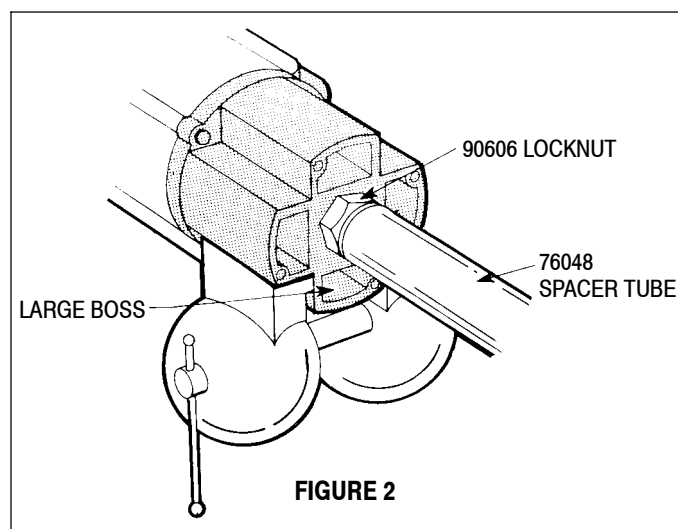
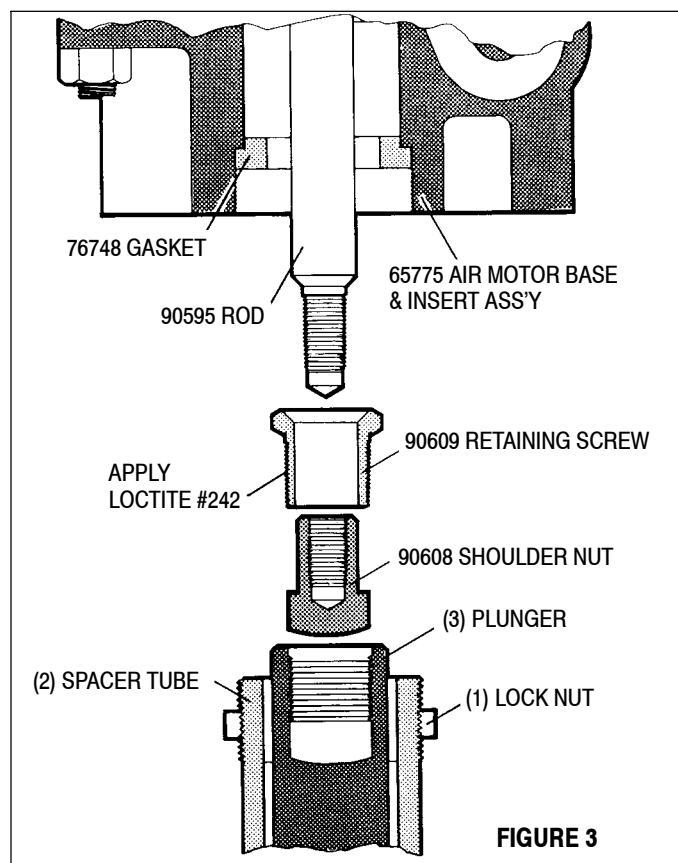
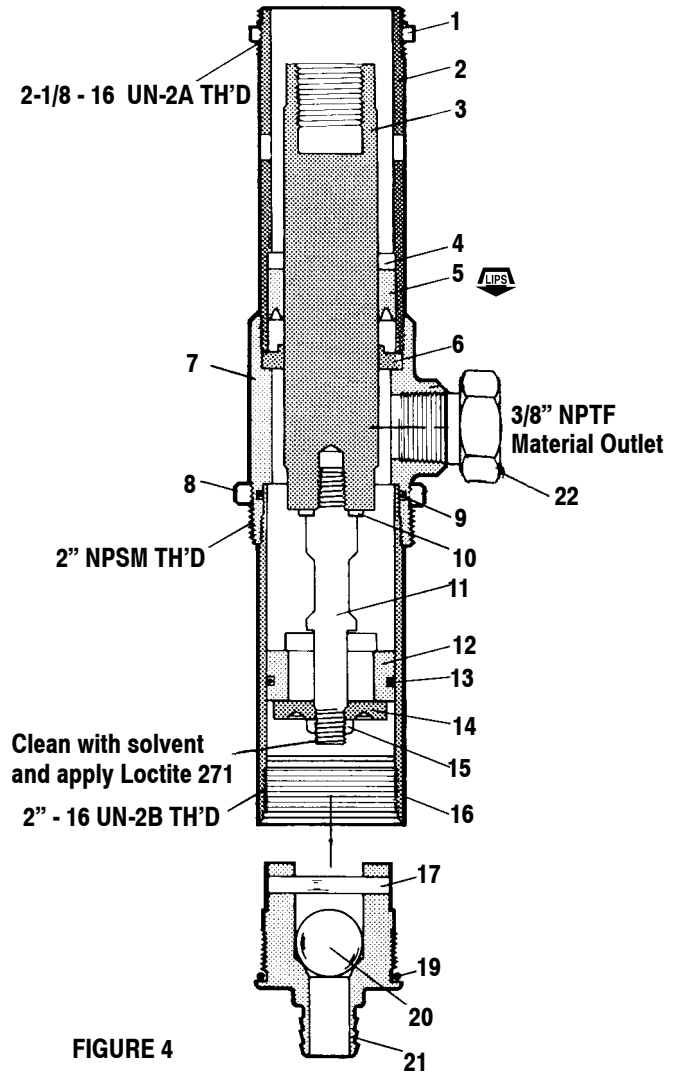

FIGURE 2
FIGURE 3
FIGURE 4
3. Place the (H) suction tube assembly and the lower pump assembly through the 2" NPT bung in the pump mounting bracket. Thread the lower pump assembly into the pump mounting bracket, align the material outlet in the direction the (F) material hose should go, and tighten the (8) lower lock nut. (See Figure 4). Loosen (1) upper lock nut,
- (Figure 4), and turn the air inlet of the 65444-B air motor in the direction desired and retighten the (1) upper lock nut.
4. Attach the (A) nipple and (B) airline lubricator.
5. Attach the (F) hose assembly to the 3/8 NPT thread in the material outlet of the pump.
6. Attach the (F) hose assembly to the 3/8 NPT thread in the (G) control handle assembly.
7. Attach the 1/4 NPT thread of the (N) bent pipe assembly to the outlet of the (G) control handle assembly.
1. Clamp the air motor assembly in a vise as shown in Figure 2.
4. After the 76048 spacer tube has been unscrewed from the 65444 air motor assembly, pull the lower pump assembly down until the (3) plunger is exposed.
5. Place a 1-3/16 open end wrench or an adjustable wrench on the flats of the (3) plunger and a 1-1/8 wrench on the 90609 retaining screw as shown in Figure 3.
2. Clean threads, apply Loctite #242 to the threads of the 90609 retaining screw and screw them securely into the (3) plunger. See Figure 3.
3. Apply PTFE tape or Parker Ferulube to the threads on the (2) spacer tube and screw it into the 65775 air motor base and insert assembly.
4. Tighten the (1) lock nut.
- Empty material supply. Disconnect the air. Replenish material supply. Connect the air. Open (G) control handle assembly until pump is primed.
- 90609 Retaining screw (See Figure 3) disassembled from (3) plunger. (Figure 4). Connect the retaining screw to the plunger. (Follow instructions for assembly of air motor to lower pump end).
- Damaged (H) lower suction tube. Replace suction tube.
- Loose (J) hose clamp assembly on (K) tube. Tighten clamp.